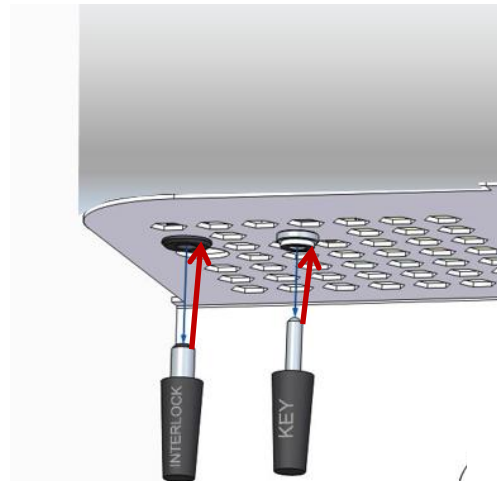

Fig. 7-6 – Detail of coded keys
- Slot for the coded keys (jack plugs) used to enable the welding machine (Fig. 7-6).